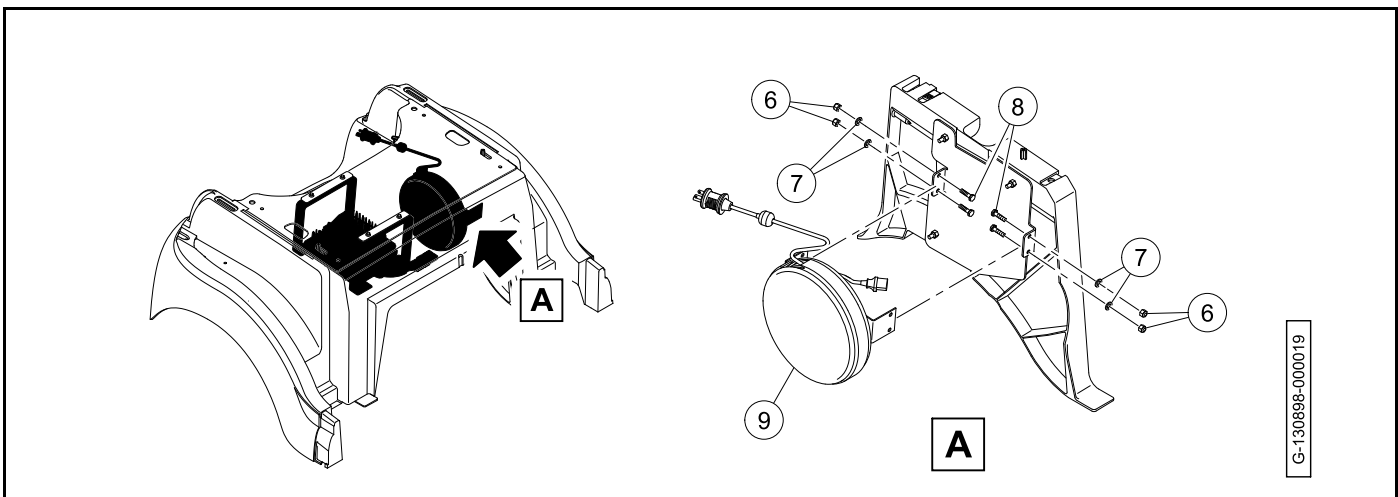

Figure 15-28 AC Cord Reel Installation
1. Install the AC cord reel (9) on the cord reel plate (Figure 15-28, Page 15-40).